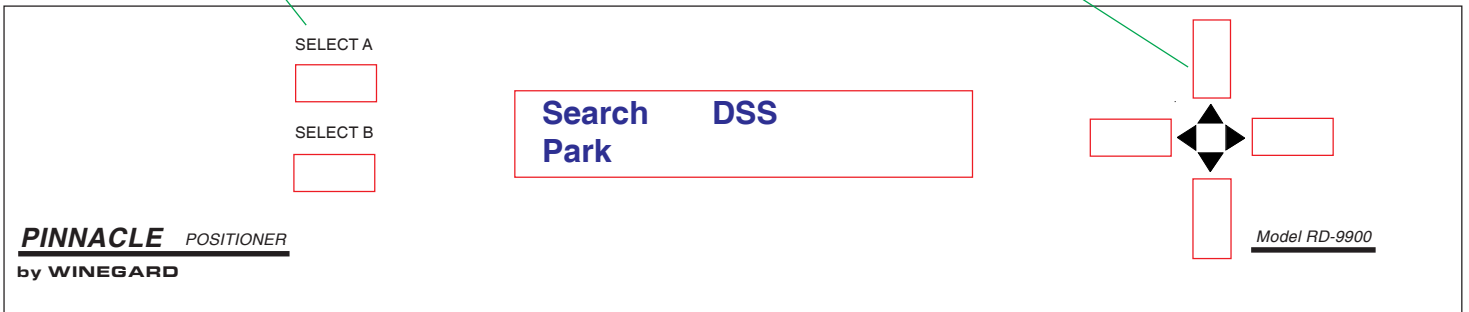

Figure 17
3. On the positioner press **[UP/DOWN]** arrow button until **Search DSS** appears on the positioner screen, Figure 17.
4. Press **[SELECT A]** to enter the search function, Figure 17. (Press **[SELECT B]** if **Search DSS** is bottom option on screen.
If no satellite was found, the message **Satellite Not Found, Press Any Button**, will be displayed by the positioner. Press any button to return to the menu shown in Figure 17, page 11.